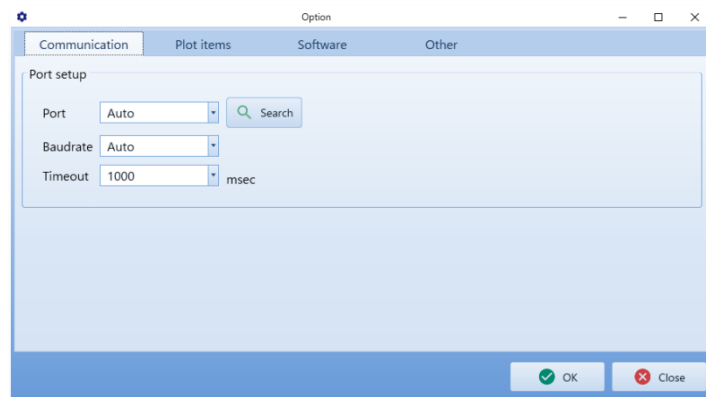

Figure 4.3 “Option” window
- (1) Launch the software.
- (2) Choose [Tools > Option] and open “Option” window. (Figure 4.3)
- (2) Choose [Tools > Option] to open “option” window. (Figure 4.3)
- (3) Choose [Communication] tab and setup “Port”, “Baudrate”, and “Timeout”.